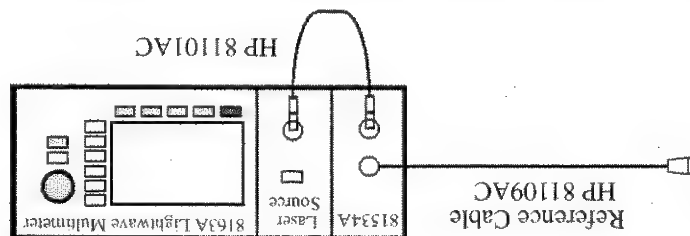

Figure 89 Measuring the Return Loss of the Reference Cable
- 1 Attach the source to the HP 81534A Input as shown in Figure 89. Attach the high return loss connector of the reference cable to the Output. The high return loss connector on these cables is the connector with the orange sleeve. For best results and higher repeatability, fix the cable.